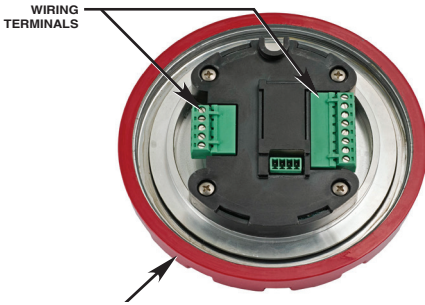

Figure 8—Location of Wiring Terminals
- Unscrew the retaining ring to gain access to the wiring terminals (see Figure 8), and complete the installation of the system conduit. Feed the external wiring through the remaining junction box entry or M25 to 3/4 inch adapter. When installing the junction box, use care not to damage the wires and refrain from twisting them.